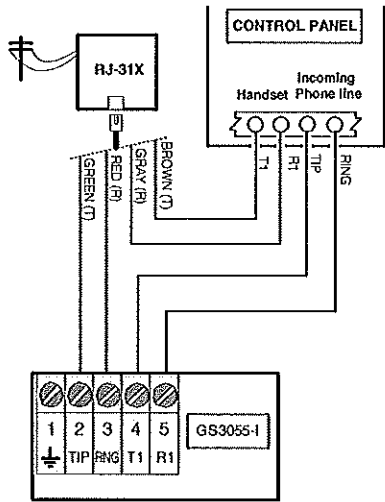

Fig. 4 - Telephone Connection
2. A supervision relay, DSC model RM-2 can be used, as indicated in Fig. 4 in order to provide supervision of the control panel (for total power loss) when the GS3055-1 CF is powered by a Separate Power Supply. When the GS3055-1 CF is powered by the control panel the relay is not required since a loss of voltage at the power input terminals on the GS3055-1 CF will generate a trouble signal transmission to the monitoring station.